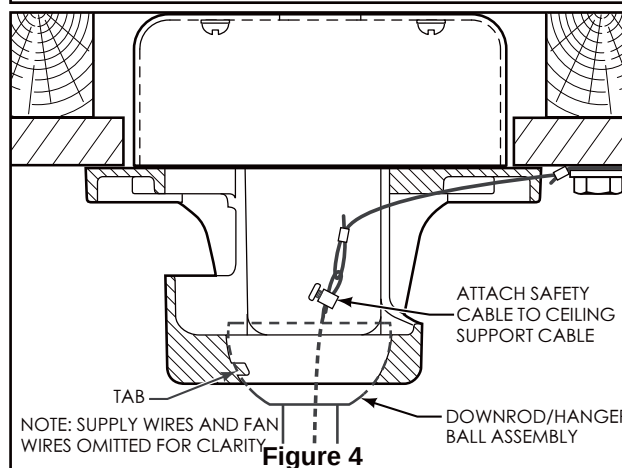

Figure 4
- ☐ 4. Carefully lift the fan and seat the downrod/hanger ball assembly on the hanger bracket that was just attached to the ceiling joist. Be sure the groove in the ball is lined up with tab on the hanger bracket. (Figure 4)
- ☐ 5. Attach the safety cable to ceiling support cable. Slide cable clamp onto safety cable (from fan). Place the end of cable through the loop of ceiling support cable. Pull as much cable through loop as possible. Feed end of cable into clamp hole and firmly tighten screw (Figure 4). Cut off excess safety cable.